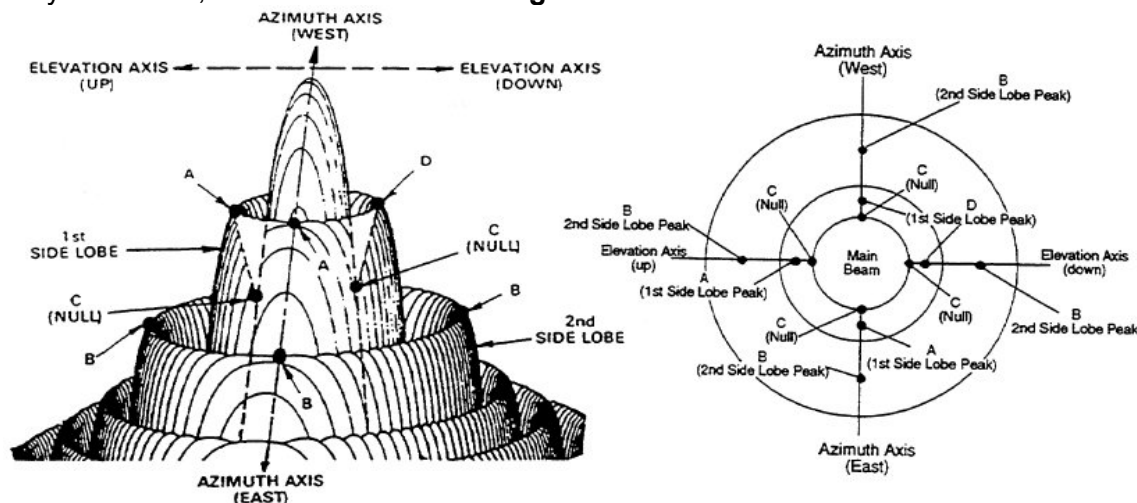

Figure 3-3: Antenna Radiation Pattern Topographical Diagram w/ Plan View
Step 4 of 9: If the antenna is peaked on a side lobe in Az or El, move the antenna Azimuth while observing the Spectrum Analyzer screen, as illustrated below in **Figure 3-3**.